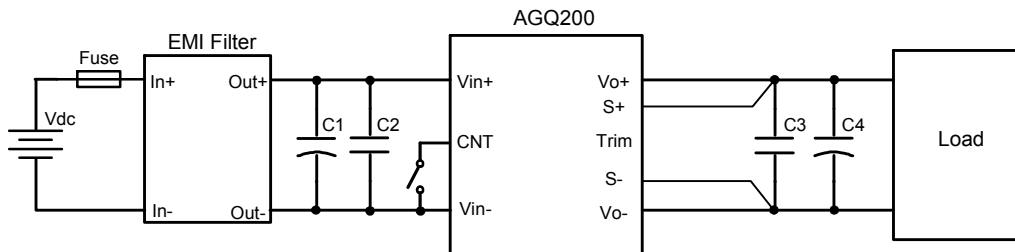

Figure 11 Typical application
Figure 5 Dynamic response for 25% load step (25% ~ 50% ~ 25%) and 0.1A/ $\mu$ s slew rate, (1ms/div), see Figure 11 for test configuration; CH1-output voltage (50mV/div); CH2-output current (10A/div)
Figure 6 Dynamic response for 25% load step (50% ~ 75% ~ 50%) and 1A/ $\mu$ s slew rate, (1ms/div), see Figure 11 for test configuration; CH1-output voltage (200mV/div); CH2-output current (10A/div)
- C1 ~ C4: See Figure 11